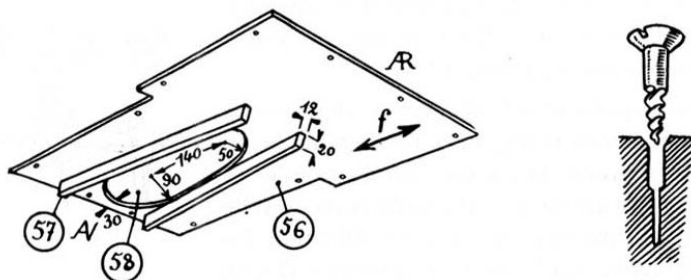

Figure 3.10: Seat bottom from below
The members (46), (20), (35), (48) and (54) are all on the same plane, and support the seat-bottom (56), which is seen from below in fig. 3.10. Determine its form in place with cardboard, so as not to waste plywood unnecessarily. This panel is only secured by 12×15 mm round-headed wood screws. It is doubled, to a thickness of 6 mm and glued under weights. Nailing would be useless.